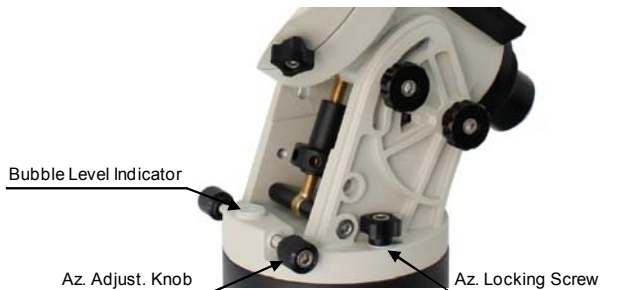
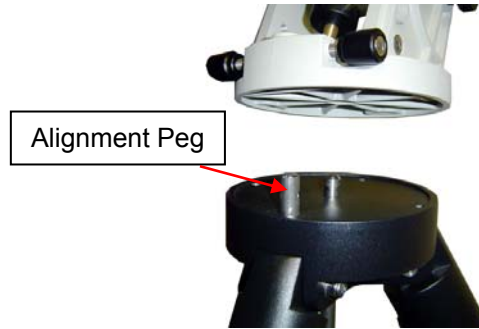

Figure 8
Figure 9
2. **Attaching the Mount:** Back out the Azimuth Adjustment Knobs (next to the Bubble Level Indicator) to prevent blocking the Alignment Peg (**Figure 8**). Put the mount onto the tripod head (or pier top) with bubble level on top of the Alignment Peg (**Figure 9**). Secure the mount head by tightening Azimuth Locking Screws. Level the mount by adjusting individual tripod leg (or pier foot). You may use the build-in Bubble Level Indicator or an external level to check leveling.